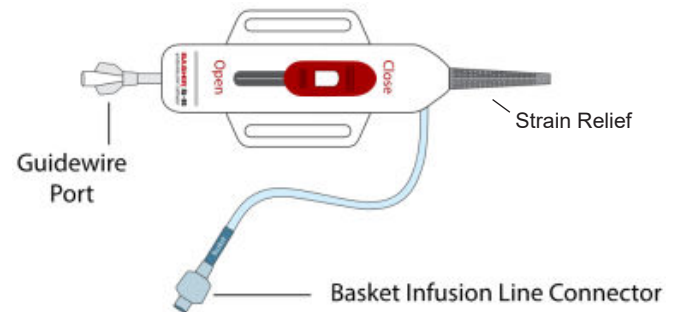

Figure 8. Basket infusion line connector and guidewire port.
6. Attach one 3-way stopcock to the basket infusion line connector (Figure 8, Page 7).
- Remove the 0.018" guidewire. Attach a second three-way stopcock to the guidewire port and flush the guidewire lumen with heparinized saline. (Figure 8).